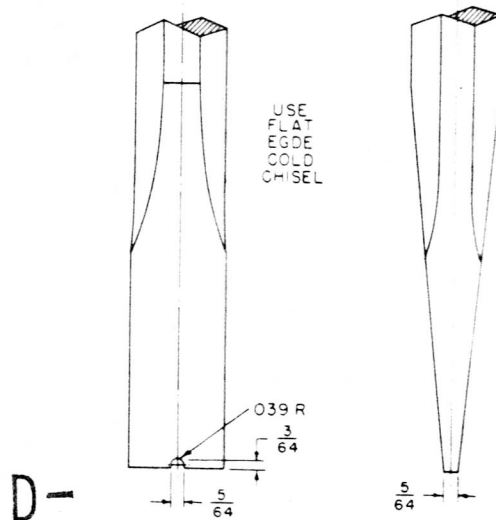

Figure 250A—Staking Tool for Float Fork Arm
- (e) Reassemble, using new bearing pin. Use staking tool (see figure 250A) for holding float on float fork.